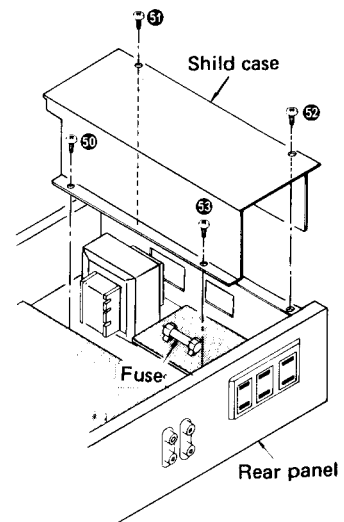

Fig. 9
2. Remove the 4 setscrews [Fig. 9: ⑤⑩ ~ ⑤③] of shield case, and remove the Fuse.